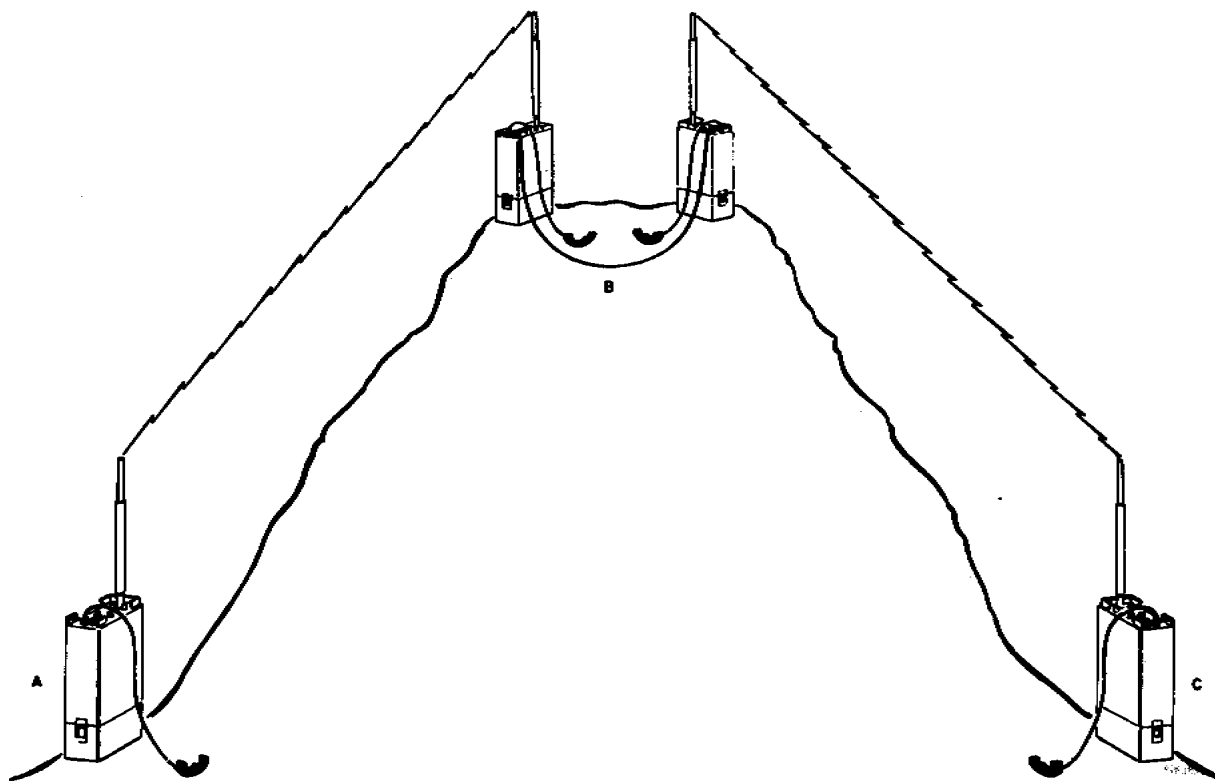

Figure 2-8. Principle of Automatic Relay Operation
(1)DESCRIPTION OF AUTOMATIC RELAY INSTALLATION. - Automatic relay operation makes possible several tactical advantages. By using a station which has two RT-695/PRC-41 equipments connected for automatic relay operation with any uhf transmitter and receiver, or other RT-695/PRC-41 equipment, the line-of-sight distance, which ordinarily limits the range of uhf equipment, can be considerably increased. A diagram illustrating the use of automatic relaying operation is shown in figure 2-8. In this illustration, any signal transmitted by C can be received at A after being automatically relayed at B. Conversely, any signal transmitted from A can be received at C after being automatically relayed at B.
- (1) Turn the three selector controls to the desired frequency.
- (2) Press the press-to-talk button on Handset H-33E/PT and talk into the microphone.
d. AUTOMATIC RELAY OPERATION. - Refer to figure 2-8 and paragraph 2-4d. Except for operating frequencies, each RT-695/PRC-41 is operated in accordance with instructions in a through c above.